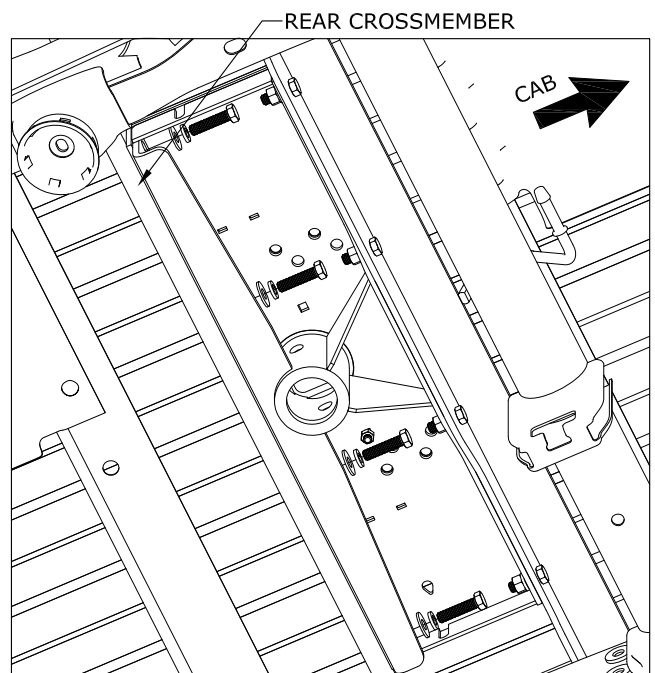

FIGURE B10: View under the center section looking from in front of the axle on the passenger side.
7. **Attach the rear cross member to the center.** Slide the rear cross member up against the center section. Line up the slots in the center with the threaded holes in the cross member. Attach the two members using $\frac{1}{2}$ x 2" long bolts, flat washers, and lock washers as shown in figure B10. Hand tighten bolts.